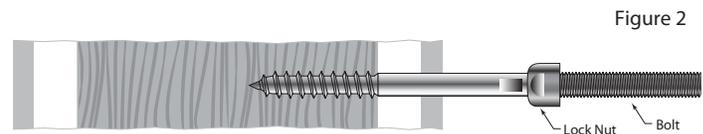

Figure 2
2. Screw the lock nut all the way onto the 2"-long threaded end of the bolt. (Figure 2)